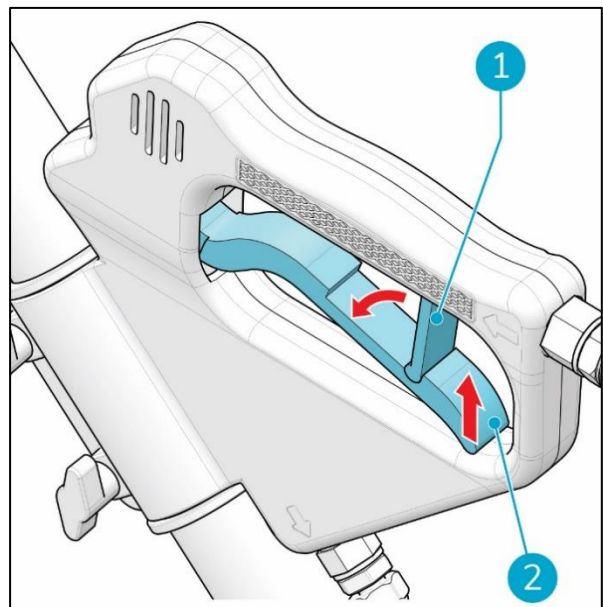

Figure 17
1. Release the trigger lock (Figure 17, pos 1).
2. Pull the gun trigger (Figure 17, pos 2) carefully and adjust the pressure from the high-pressure cleaner to obtain the correct working pressure, starting from low to high. This will avoid dangerous pressure spikes.